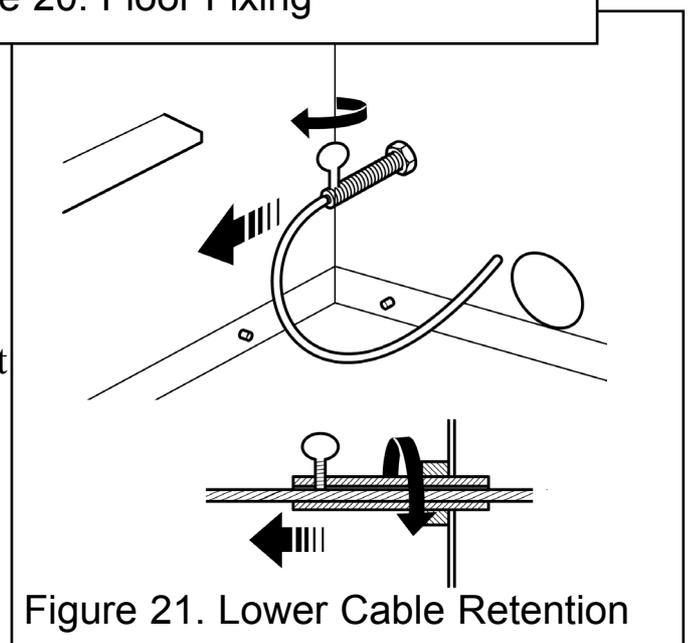

Figure 21. Lower Cable Retention
11. Pull each cable taut. Push the cable retainers hard up against the back panel. The end of the cable adjuster will pass into the hole. Tighten the screws in the retainers so that they clamp the cables in position. Apply tension to the cables by turning the hexagonal adjusters by hand. See figure 21.